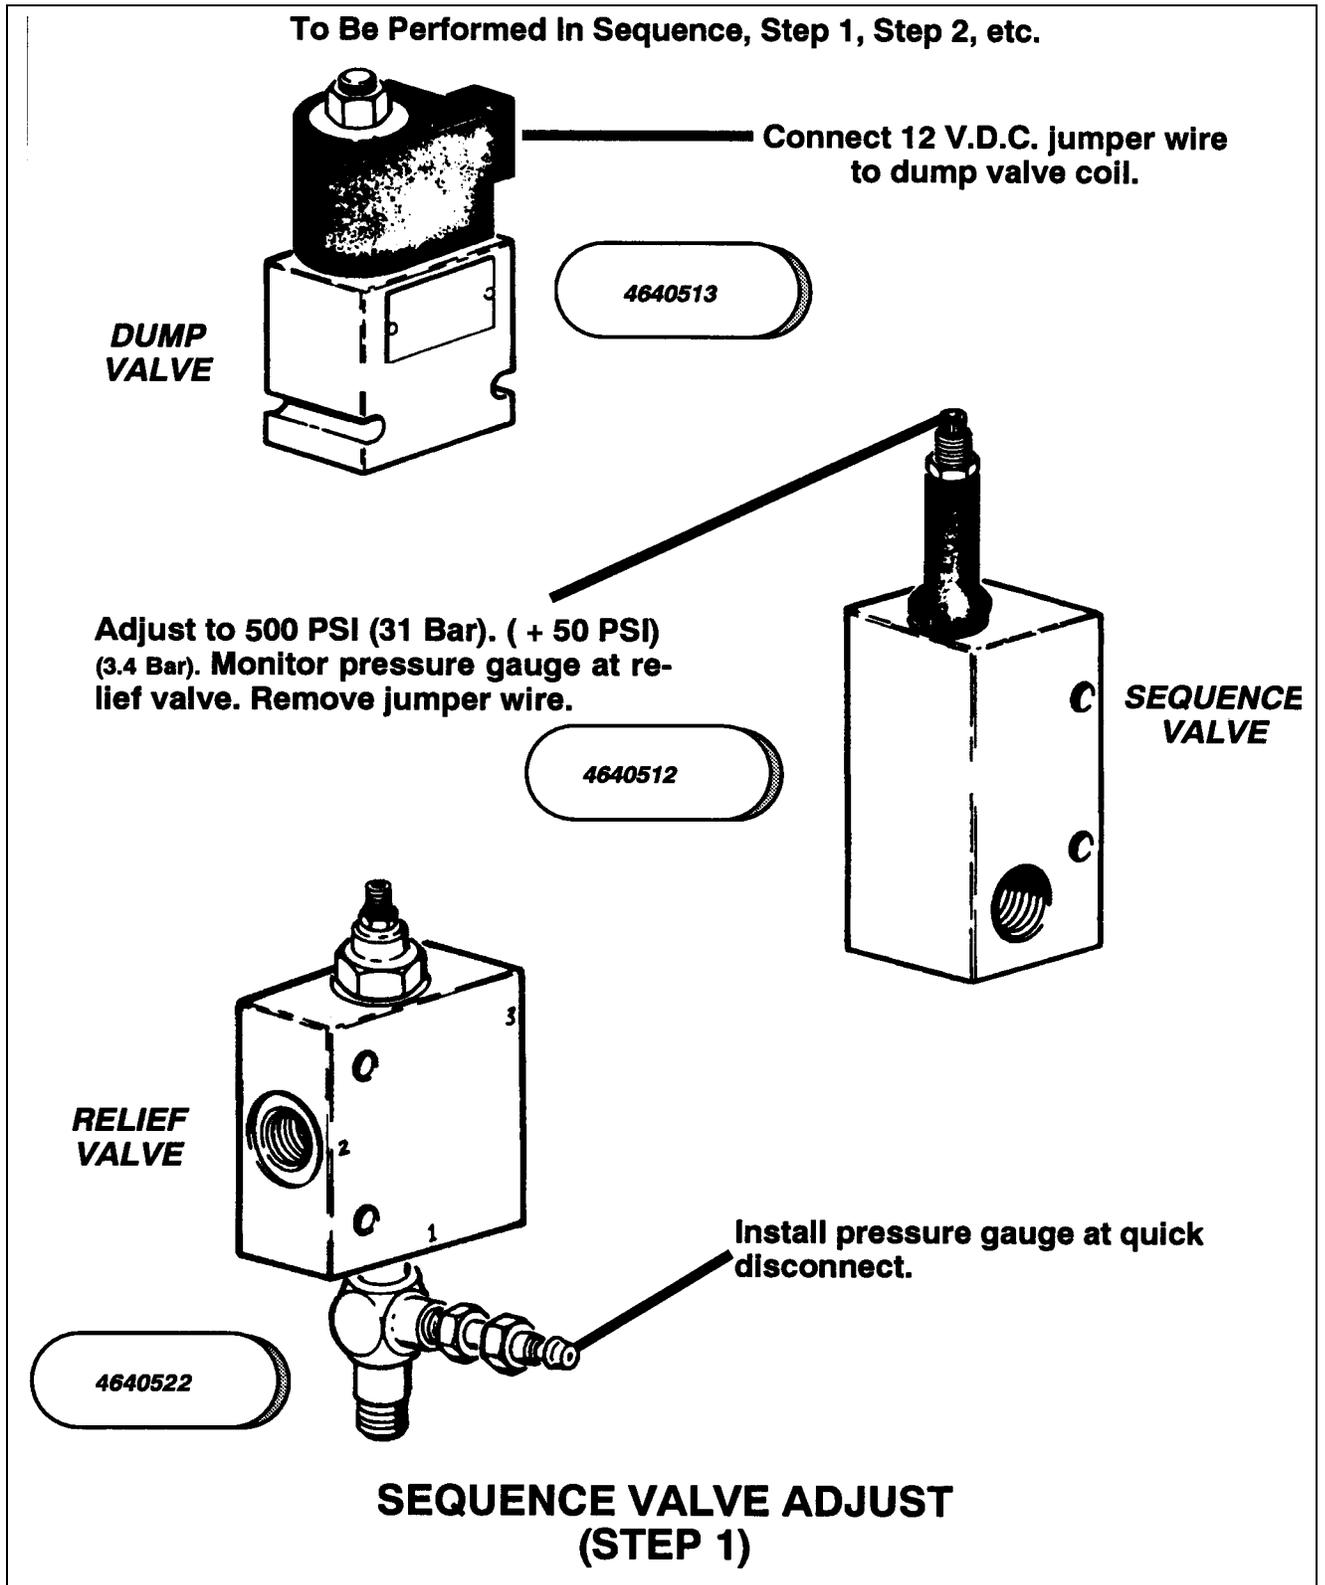

Figure 2-14. Vickers Proportional Valve Pressure Setting, Machines Built To Present (Sheet 1 of 4)
- b. Vickers Proportional Valve Pressure Setting, Machines Built To Present are shown in Figure 2-14, 2-15, 2-16, and 2-17.